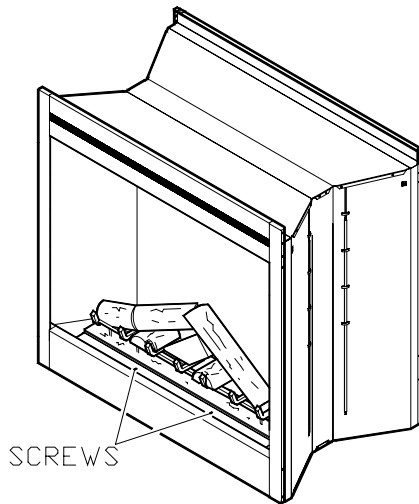

FIGURE 4
2. Remove two screws on log bracket and remove log plate (FIGURE 4).